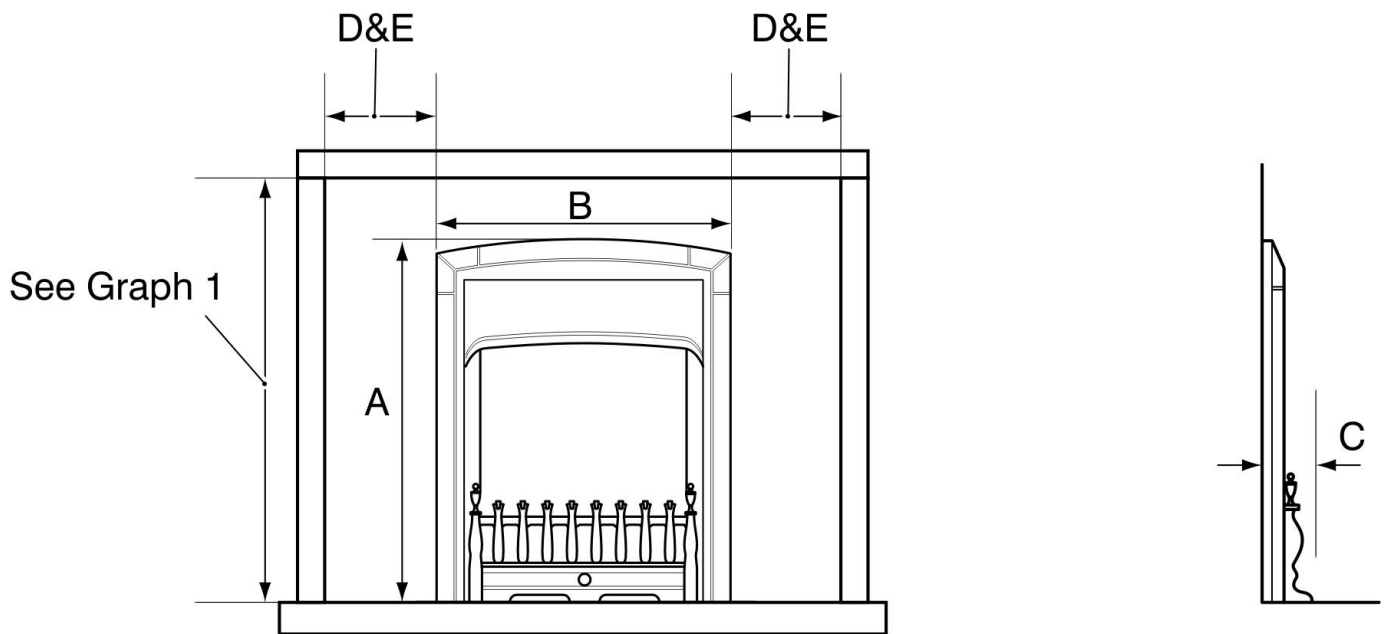

Figure 5. Appliance dimensions and clearances (Fascia may differ from that shown)
- If the lower part of the fascia (the firefront) is free standing, the recommended reduced hearth depth is 100mm. This is necessary to support the firefront (See figure 5 for appliance dimensions).
**3.18** The minimum allowable distance from the outside of the appliance fascia to a corner wall having combustible material or any other combustible surface which projects beyond the front of the appliance is shown in figure 5.
Figure 5 also gives the necessary access clearance from a non-combustible surface at both sides.